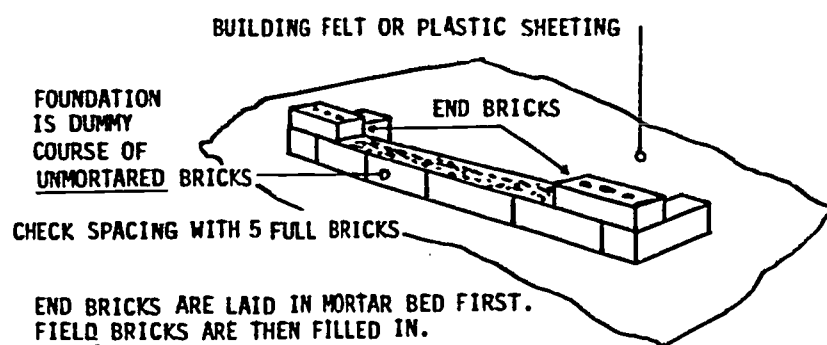

Fig. 114-1. Layout for Bricklaying
1. Review and demonstrate laying a mortar bed (Fig. 114-1), "buttering" the end of a brick, leveling, and aligning. (See Laboratory Manual.)